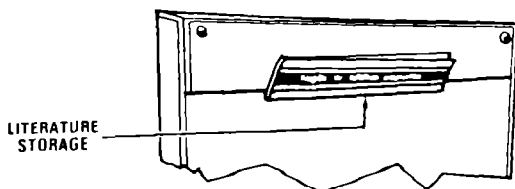

FIGURE 7
5. Remove any materials that are shipped in the drawer. Some models have a literature storage compartment located inside the front panel. See Figure 7. DO NOT REMOVE THE BAG.